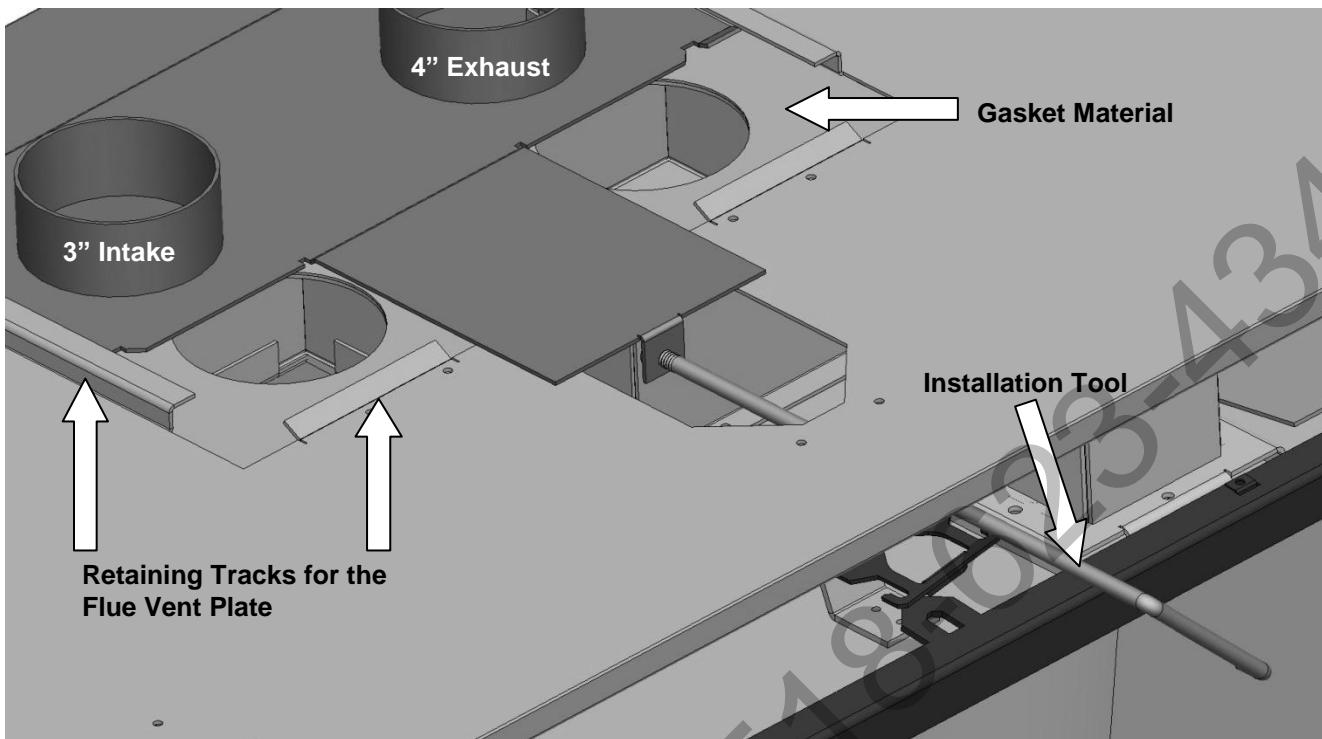

Figure 19 – Flue Plate & Installation Tool Detail
5. Carefully position the DVI 44 in front of the fireplace opening. Slowly slide the insert back so the rear of the insert is just inside the fireplace. Start the Flue Vent Plate underneath the Retaining Tracks on the top of the insert. (See Figure 19) The Retaining Tracks will ensure a tight seal for the flue gases when the plate is fully seated.